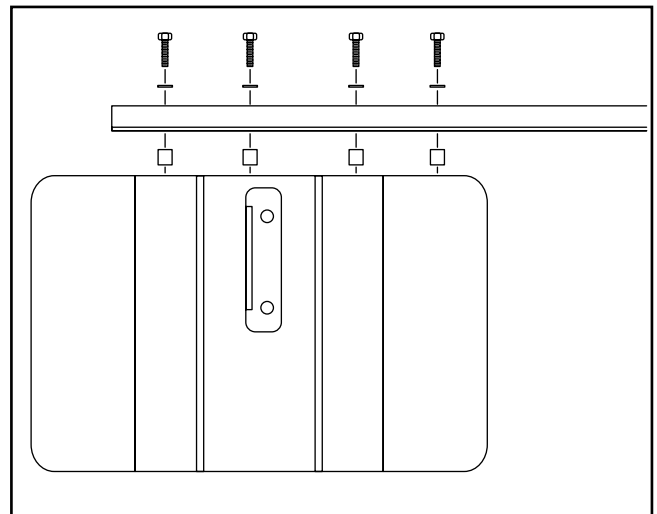

Figure 8. Rear rail attachment procedure.
2. Attach the rear rail to the table top using the spacers, hex bolts and lock washers supplied. See **Figure 8**. Using a combination square set at $\frac{15}{32}$ ", place at the edge of the table, and adjust the rail so it is consistently $\frac{15}{32}$ " below the top of the table.